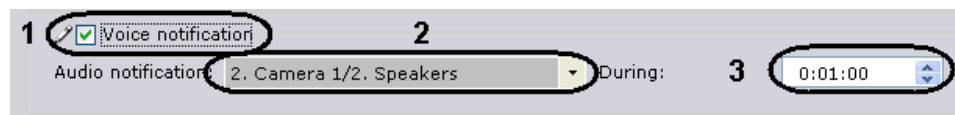

Fig. 6.4—31 Configuring voice notification
1. Select the **Voice notification** check box (Fig. 6.4—31, 1).
2. From the **Audio notification** list (see Fig. 6.4—31, 2), select the **Speaker** object corresponding to the speaker on which you wish to play the voice notification.
3. In the **During** field (see Fig. 6.4—31, 3), enter the time in the format HH:MM:SS during which the voice notification is to be transmitted.